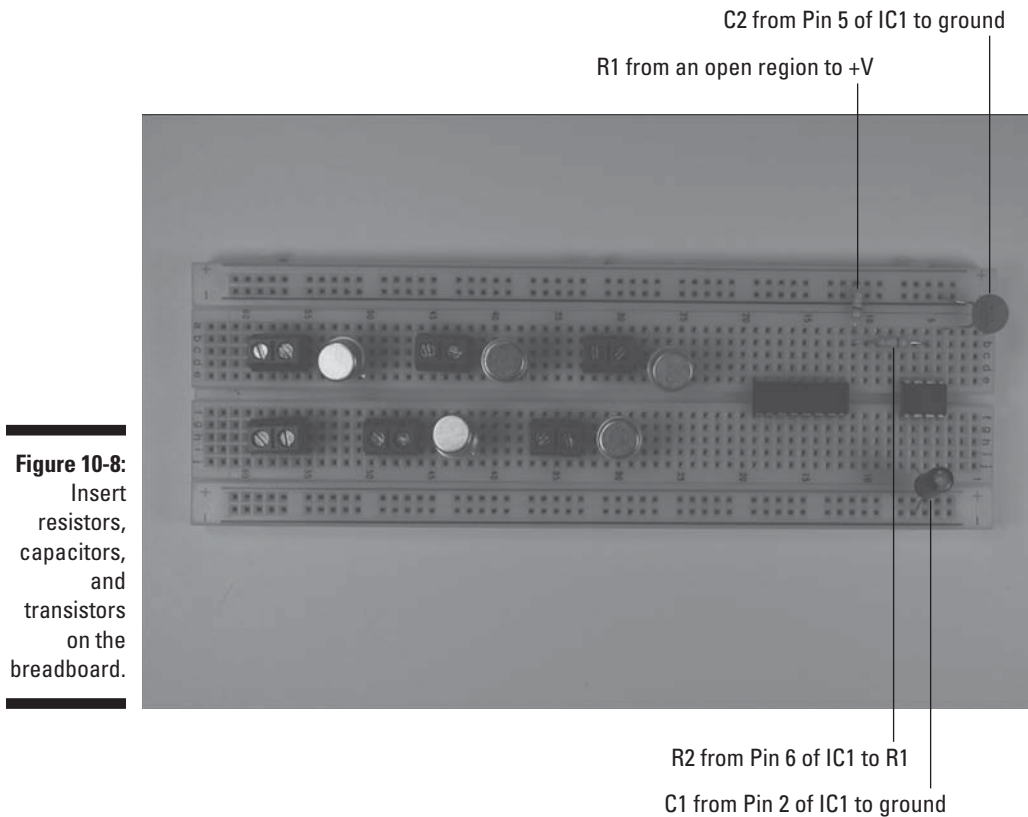

Figure 10-8:
2. Insert discrete components on the breadboard, as shown in Figure 10-8.